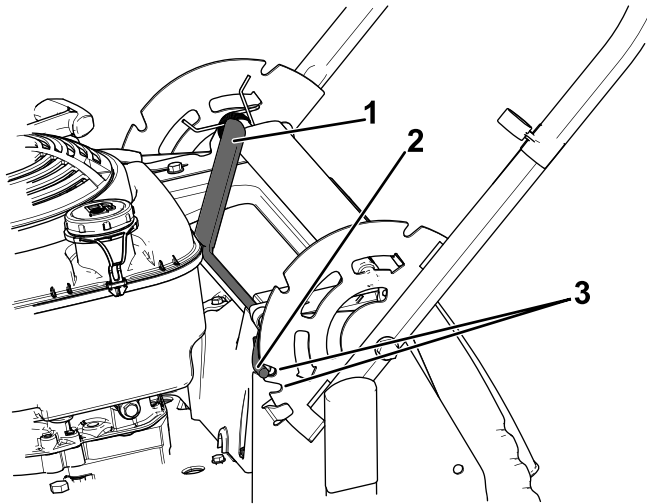

Figure 14
1. Pull the handle-lock lever rearward to disengage the handle-lock pins (Figure 14).
2. Rotate the handle and align the desired notch in the handle bracket to the handle-lock pins; refer to Figure 14.